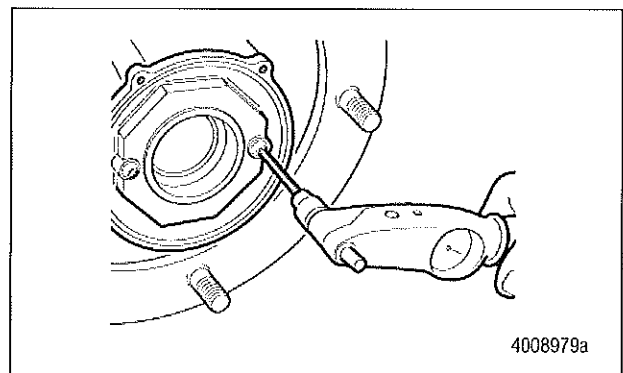

Figure 26
- J. Use a 5 mm Allen-head socket and torque wrench to tighten the two button-head screws to 11-15 lb-ft (15-20 N•m). Figure 26.